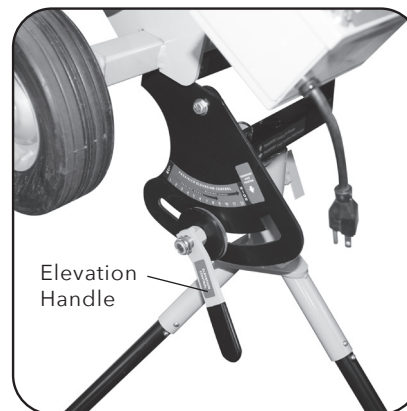

Figure 7 Loosen stand elevation handle.
7. Loosen stand elevation handle (See Figure 7).